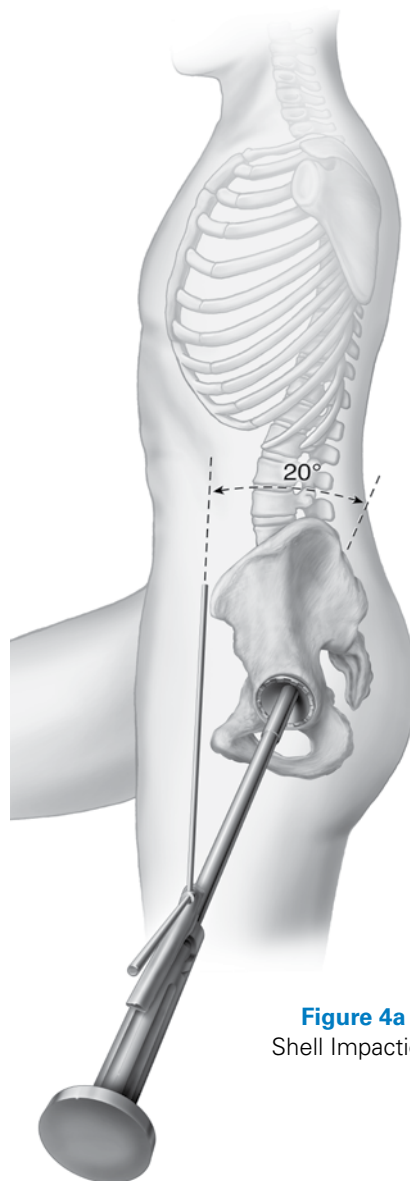

Figure 4a
Step 3: Assemble the Shell Impactor Alignment Guide to the Shell Impactor. Once assembled, rotate the Alignment Guide to the appropriate L/R marking on the Shell Impactor. Introduce the shell into the reamed acetabulum and impact it into place. Once impacted, the horizontal rod of the Alignment Guide should be positioned parallel to the long axis of the body (*Figure 4a*) for a 20-degree anteverted shell position (if patient is in the lateral decubitus position)